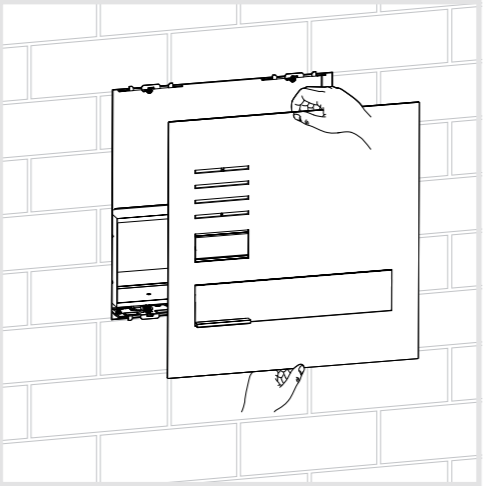

Figure 13: Inserting the letter box front
- Insert the letter box front and press down until it clicks audibly into place simultaneously at the top and bottom if possible (Figure 13).